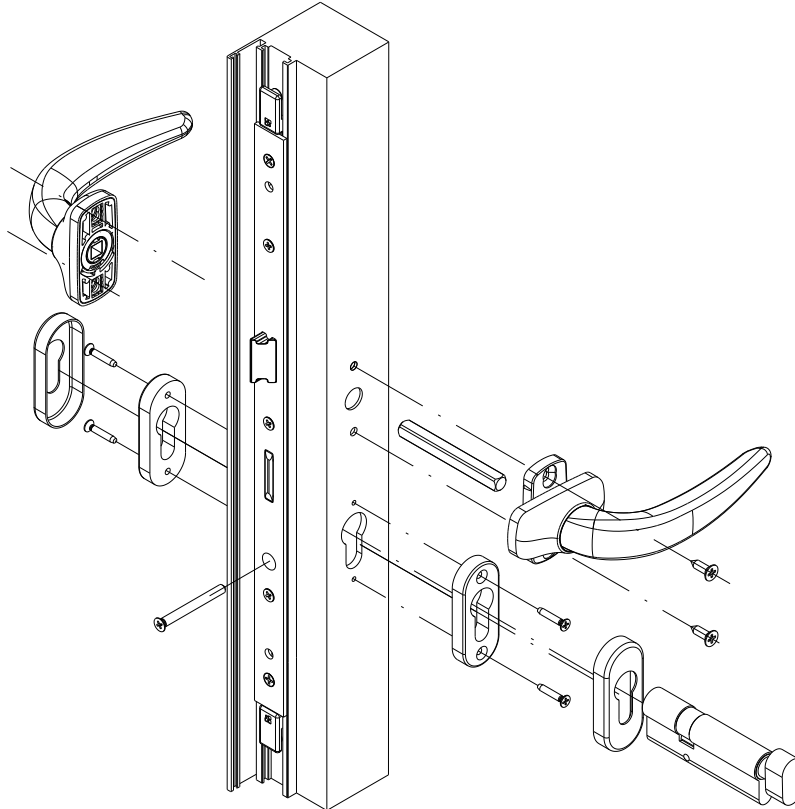

Figure 35
- G. Mount the baseplate for the lock cylinder cover(s) to the door leaf with the provided fasteners (Depending on the ordered lock configuration there may be a cover on either the exterior, interior, or both). See Figure 35 for orientation.